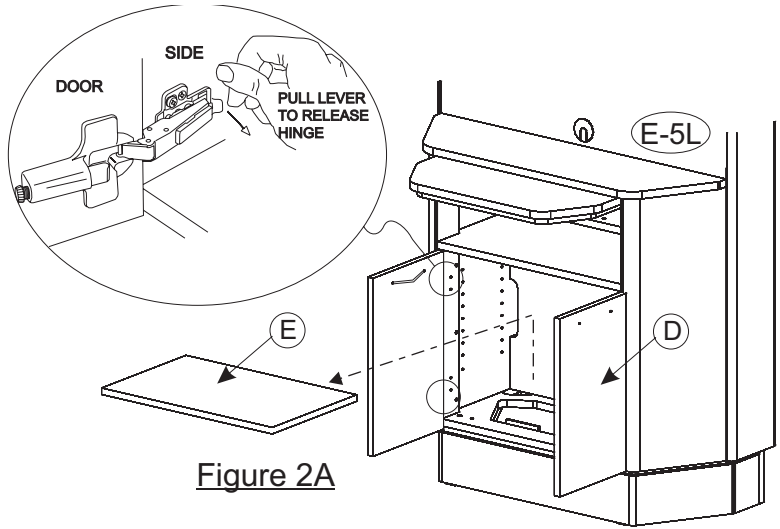

Figure 2A
For E-5 models: Remove the two doors (D) (see Figure 2A). Remount door handles from back side to front side. Remove the bottom cover (E) (see Figure 2A).
For E-5L models: Remove the two doors (D) (see Figure 2A). Remount door handles from back side to front side. Remove the bottom cover (E) (see Figure 2A).